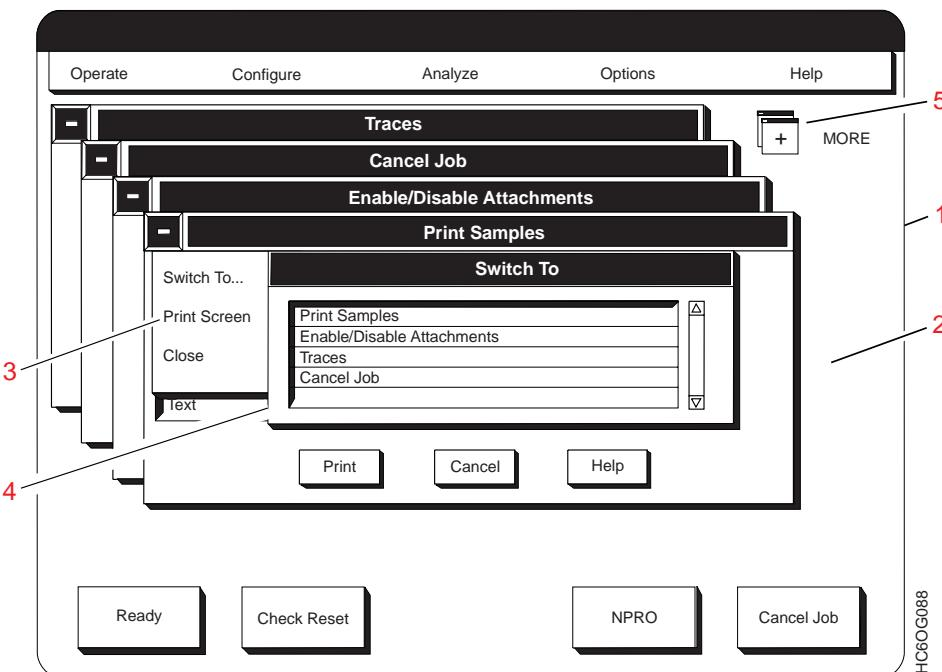

Figure 16. Procedure Windows in Cascade Format
- A selection list box with many items from which you can select. See (4) in Figure 16 on page 56 for an example of a pop-up window with a selection list box.
Displays a pop-up window that lists all of the procedures that are currently open (for example, see (4) on Figure 16 on page 56). Selecting any procedure name from the list moves the window for the procedure to the front.
Figure 16 shows: